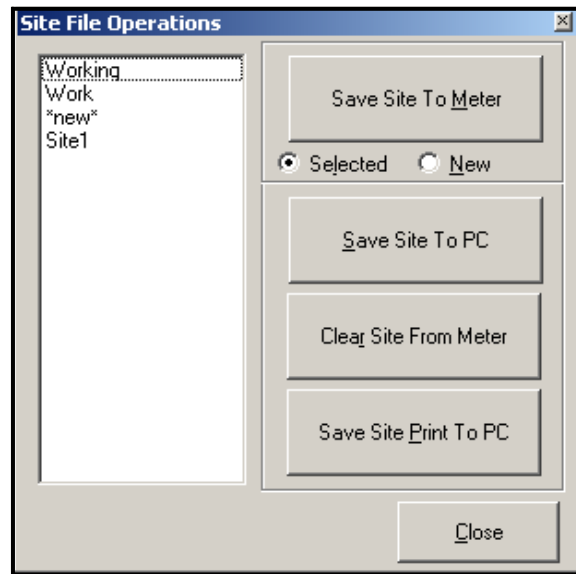

Figure 31: The *Site File Operations* Window
To access site files, click on the *Site Files* button in the *Properties* window. The *Site File Operations* window (shown in Figure 31 below) opens.
1. Highlight the desired site in the left pane. (See *Figure 31 on page 104*.)
1. Highlight the site in the left pane. (See *Figure 31 on page 104*.)
1. Highlight the site in the left pane. (See *Figure 31* on page 104.)